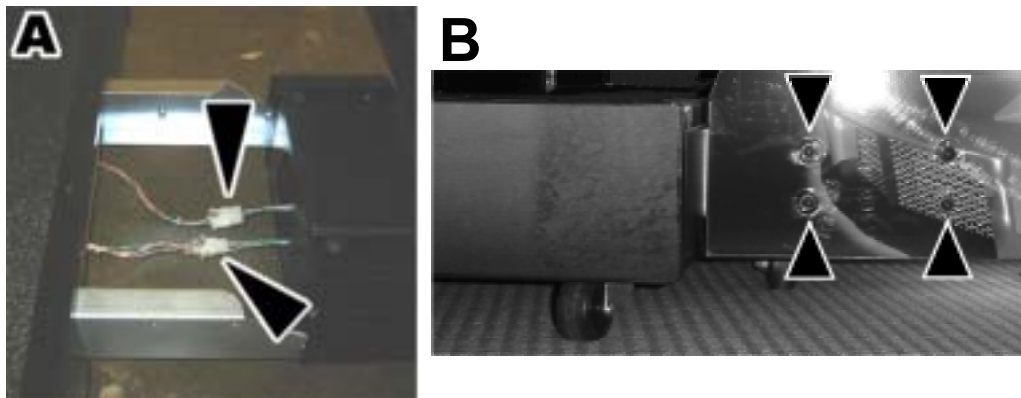

Figure 4. Attaching the Driving Seat to the Runners
5. Locate the two wire harnesses inside the driving seat, and inside the cabinet, near where the seat runners are installed. Connect the harnesses together as shown in item A of Figure 4. The connectors are keyed to prevent incorrect wiring.
- Slide the driving seat towards the cabinet while guiding the wire harnesses inside. Attach each driving seat to the seat runners using four (4) 2-1/4" T-27 Torx screws with 1/4" lock washers and fender washers. See item B of Figure 4.